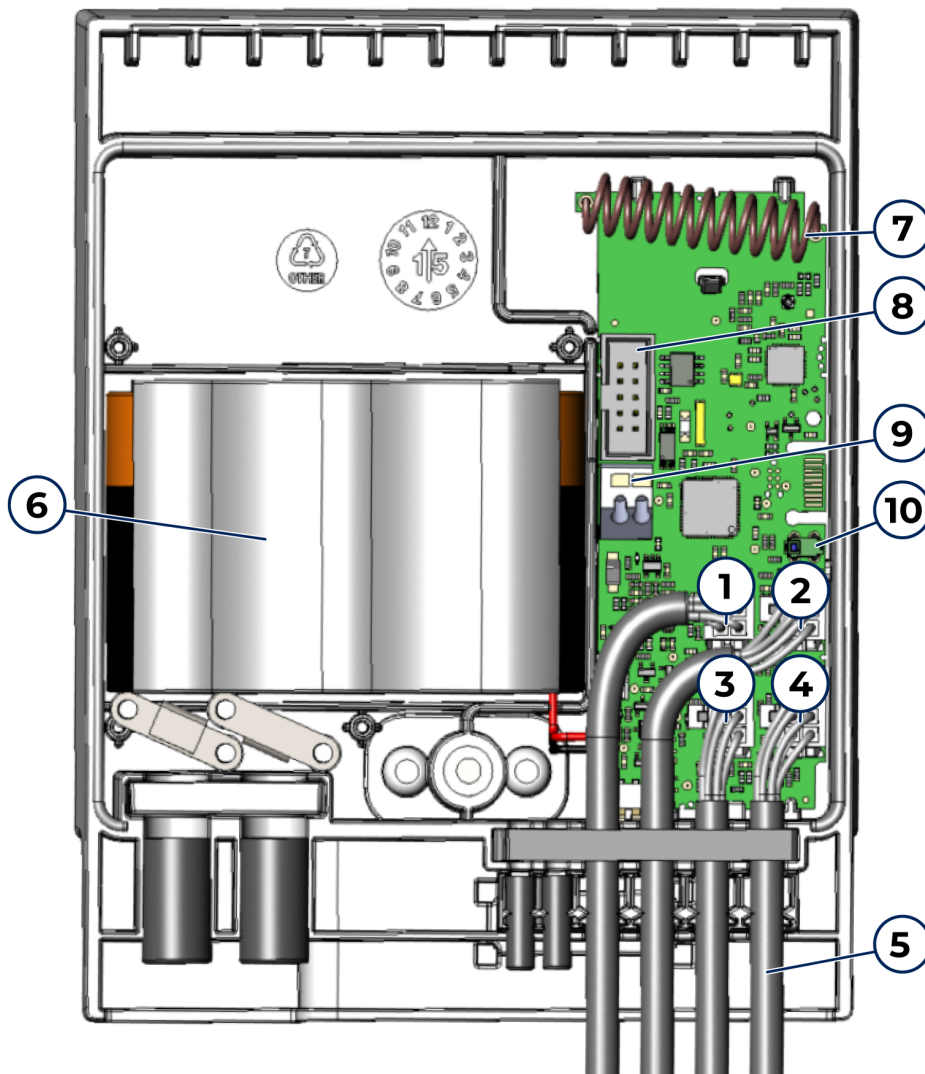

Figure 3: Installing cables to the household unit EVH-RB
2. Install the cables in the order shown in Figure 3.